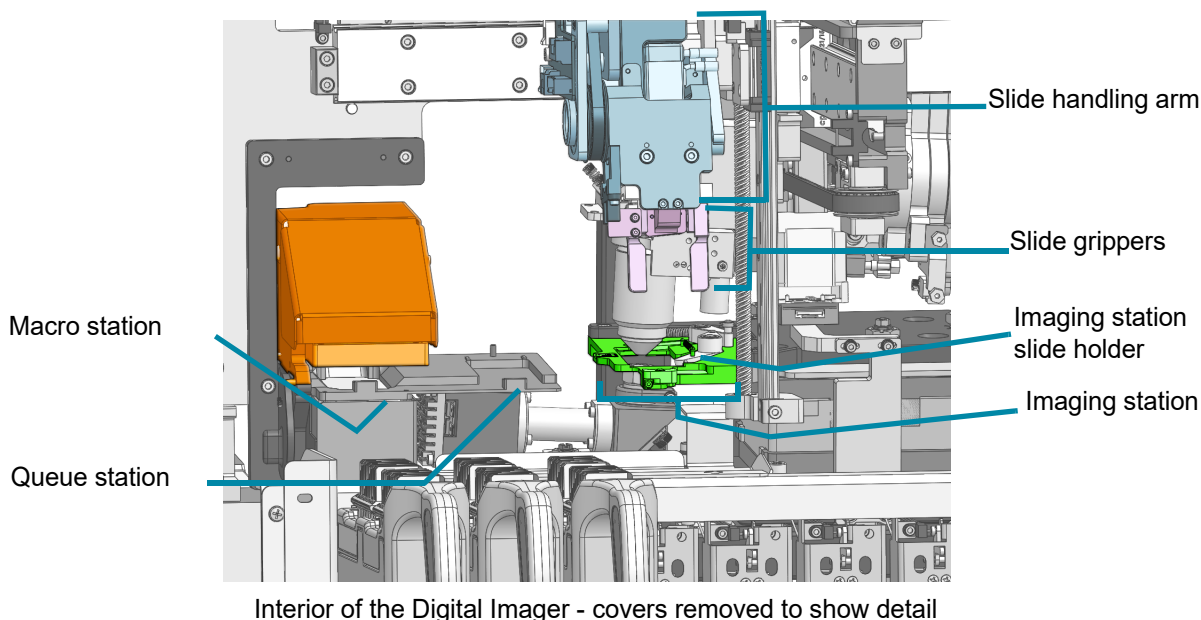

Figure 5-5 Macro Station, Queue Station, Imaging Station and Slide Gripper
2. Move the slide handling arm so that the macro station is easy to reach. Do not press on the macro station. Gently, wipe any glass dust and debris from the macro station with a lint-free wipe, dampened with deionized water. Refer to Figure 5-5.